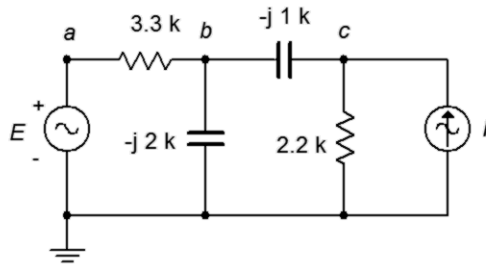

Figure 6.22
43. Use nodal analysis to find the current through the $3.3\text{ k}\Omega$ resistor in the circuit of Figure 6.22.
44. Given the circuit in Figure 6.22, write the node equations and determine v_c . $E = 18\angle 0^\circ$,